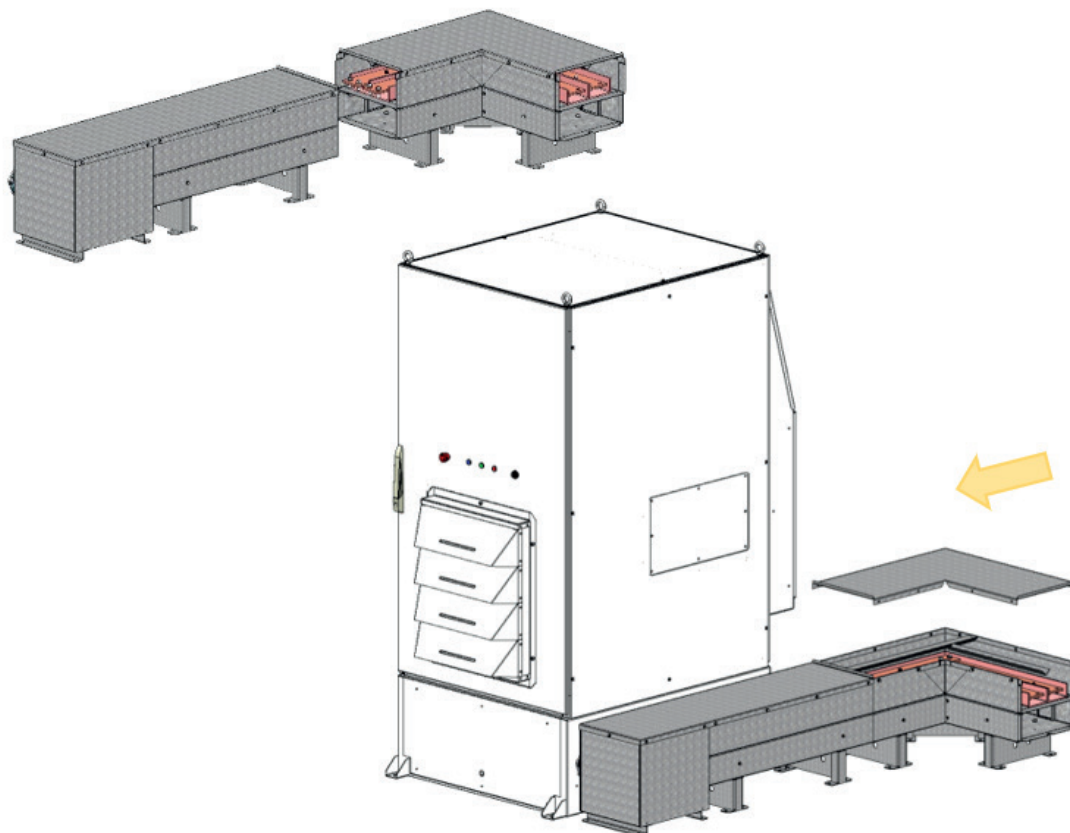

Figure 67. Placing the C-Trough Corner Module
- a. Place the unit in front of the C-Cab XXL interface module positioned in the previous step as in Figure 67.